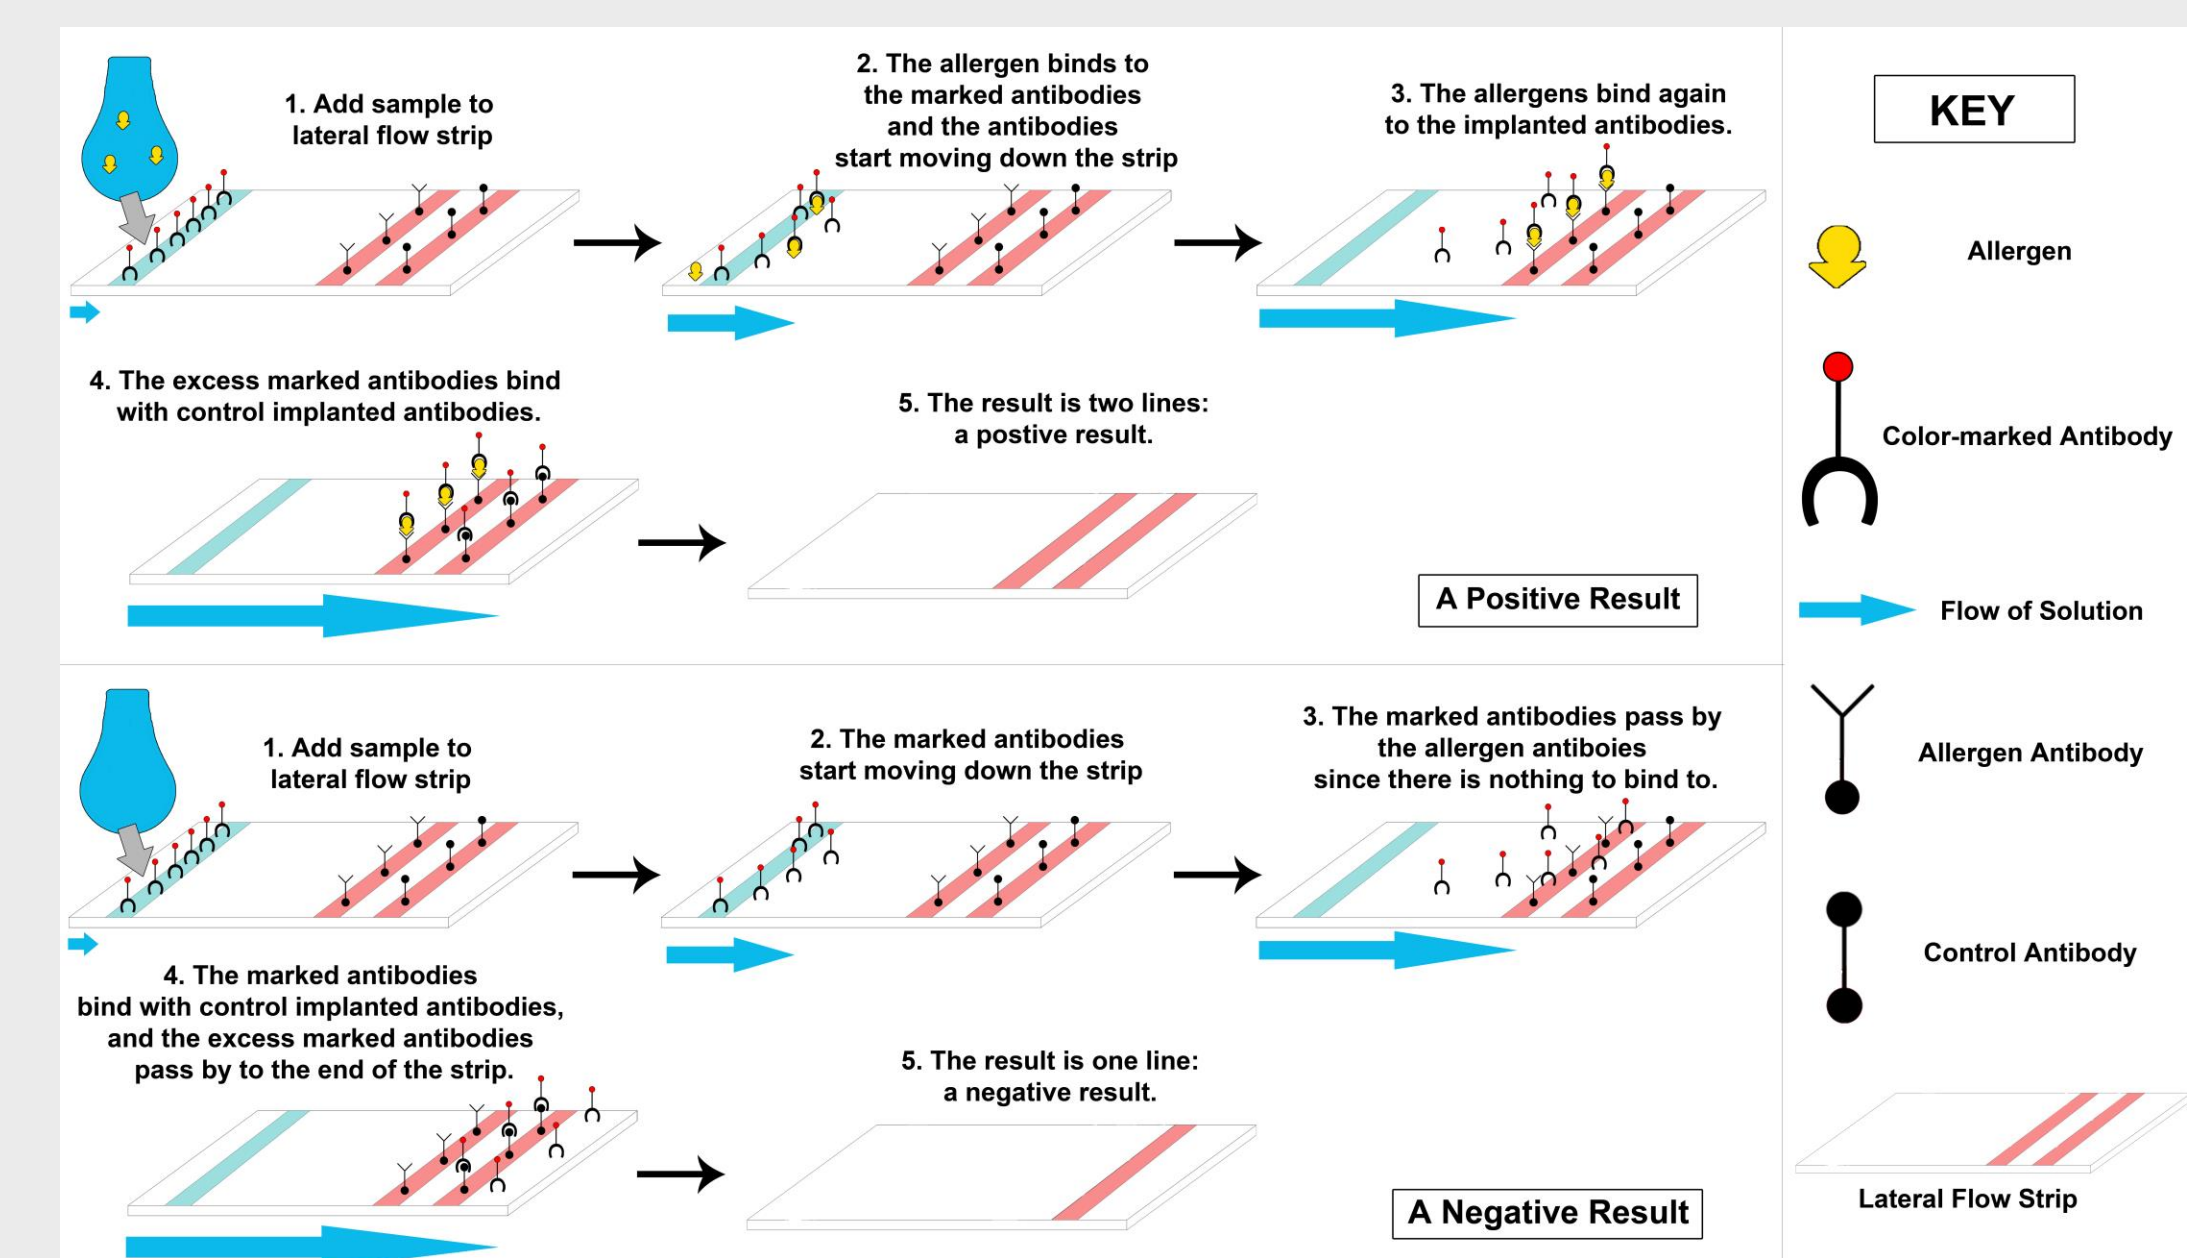

Figure 2: Flow process diagram of how a lateral flow assay functions
4. The Sample Vial is pushed down on the spike of the Testing Card, releasing the solution onto a lateral flow assay (LFA). Figure 2 shows how a LFA works.